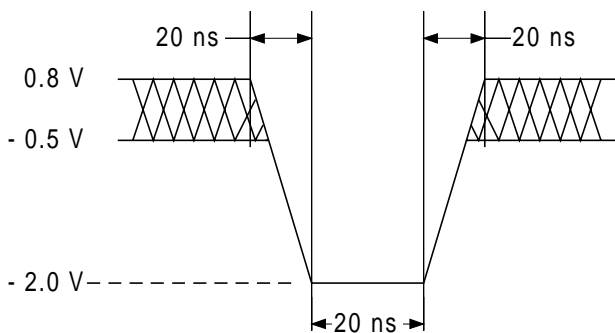
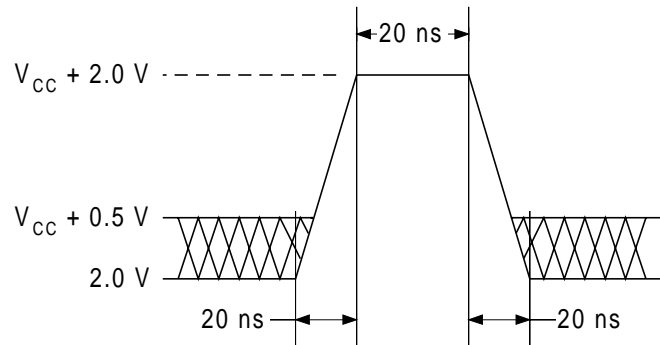

Figure 9. Maximum Undershoot Waveform
Figure 10. Maximum Overshoot Waveform
1. Minimum DC voltage on input or I/O pins is -0.5 V. During voltage transitions, input or I/O pins may undershoot V_{SS} to -2.0V for periods of up to 20 ns. See Figure 9. Maximum DC voltage on input or I/O pins is $V_{CC} + 0.5$ V. During voltage transitions, input or I/O pins may overshoot to $V_{CC} + 2.0$ V for periods up to 20 ns. See Figure 10.
2. Minimum DC input voltage on pins A[9], OE#, and RESET# is -0.5 V. During voltage transitions, A[9], OE#, and RESET# may undershoot V_{SS} to -2.0 V for periods of up to 20 ns. See Figure 9. Maximum DC input voltage on pin A[9] is +12.5 V which may overshoot to 14.0 V for periods up to 20 ns.